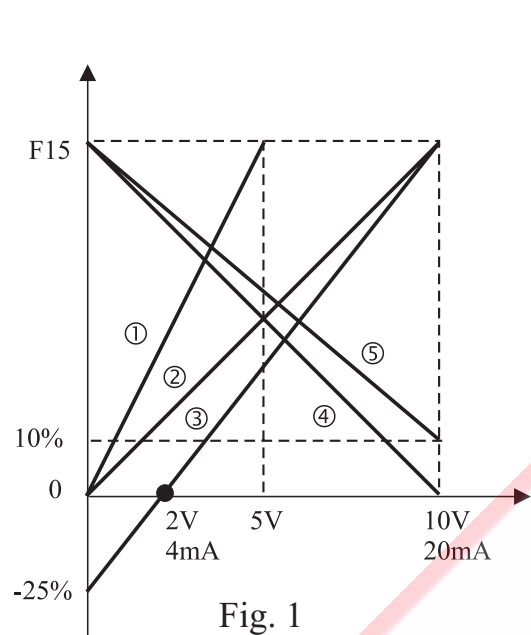

Fig. 1
*** Refer to the Description Given Below According to the Chart Given Above Fig. 1:**